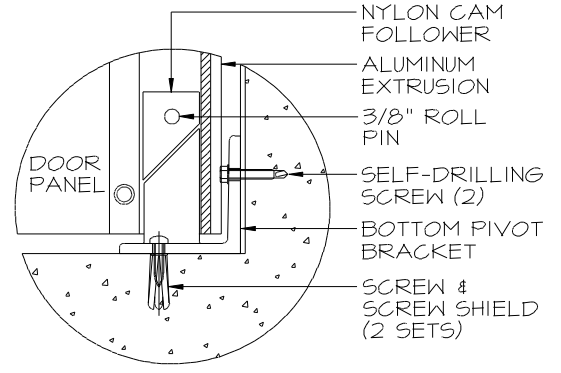

FIG. 3
If there is no jamb guard, **line up bottom pivot bracket with the Figure 1 plumb line at the bottom of the jamb (Figure 3).**
- b. **Insert bottom pivot hardware into aluminum extrusion** in the following order (Figure 3):